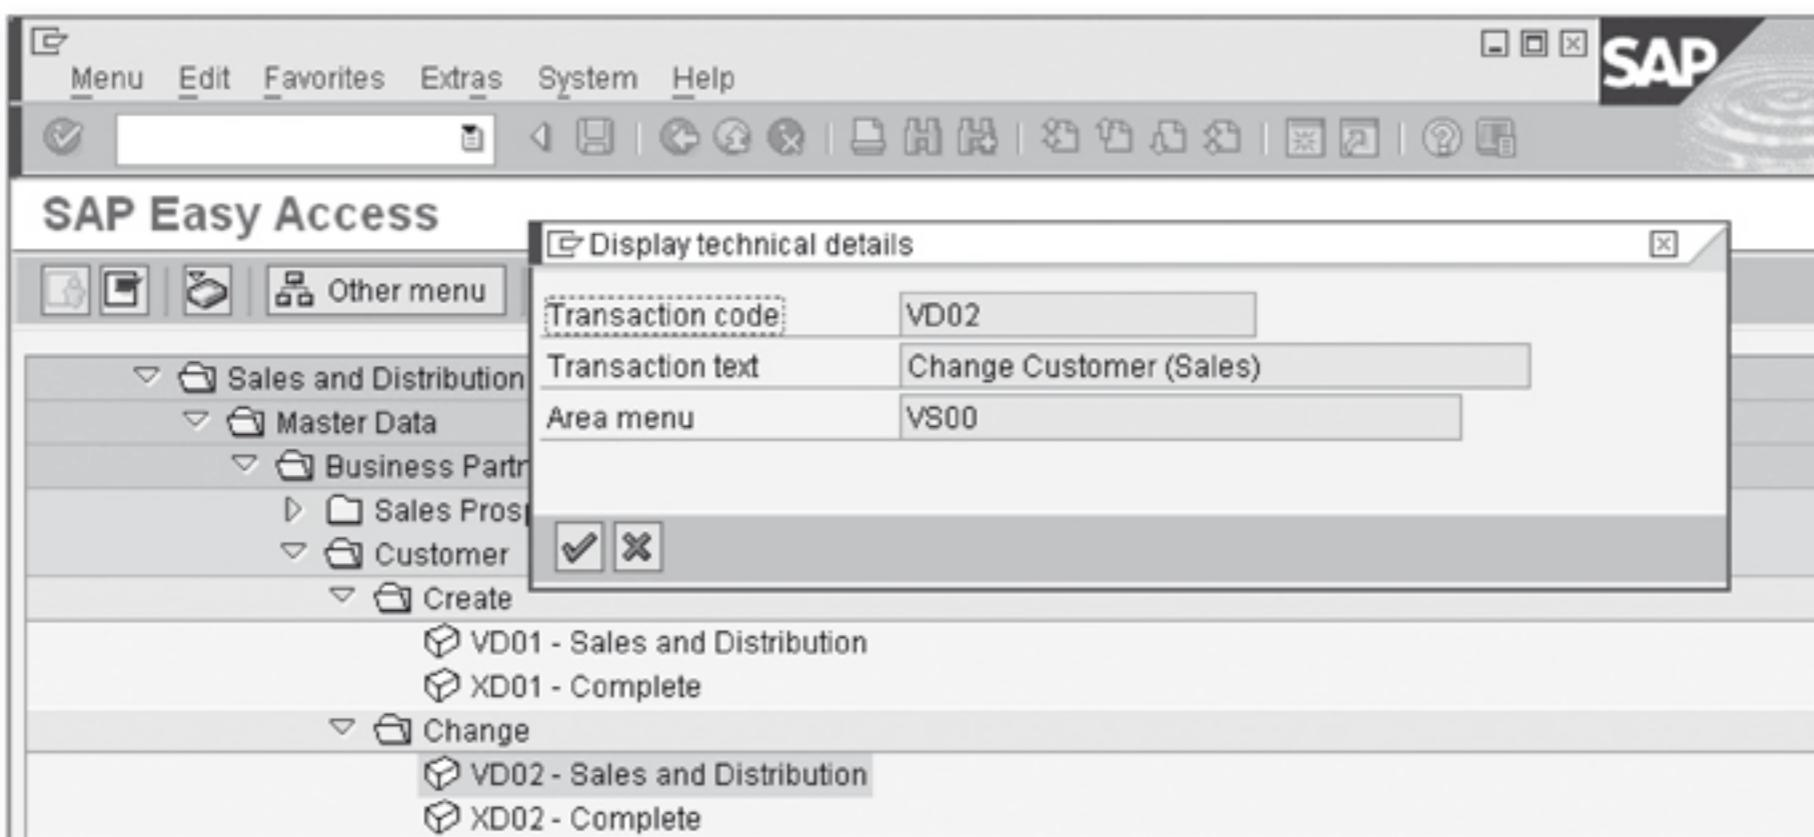

Figure A.11 Technical Details Display Window
- ▶ Use menu path CHOOSE EXTRAS • TECHNICAL DETAILS. A dialog box appears displaying the details for the selected menu item (see Figure A.11).